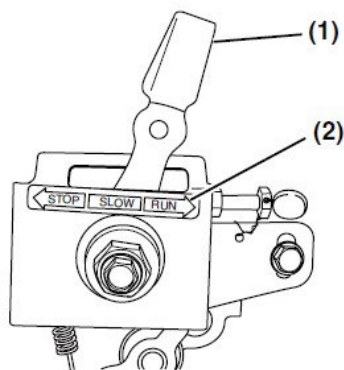

Figure 10
1. If your engine speed control is similar to **Figure 10** slide the engine speed control lever (**Figure 10, (1)**) to the RUN position (**Figure 10, (2)**).